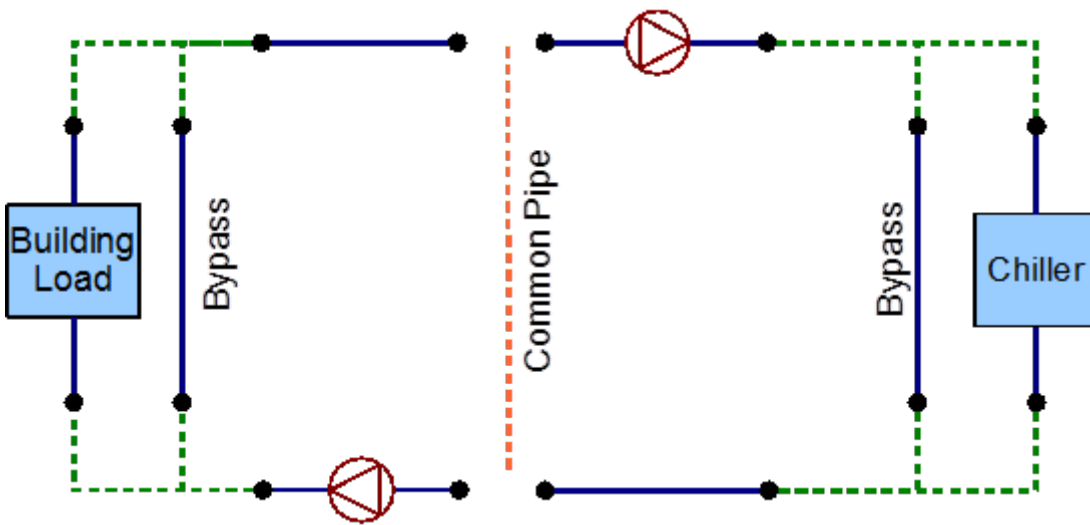

Figure 8 - Branch definition
6. **Identify all the branches in the system.** Remember to add the bypass branches to the operating components (except the pumps). Branches have to start and end with nodes, and should contain at least one component. The branches are denoted by the blue lines in Figure 8.